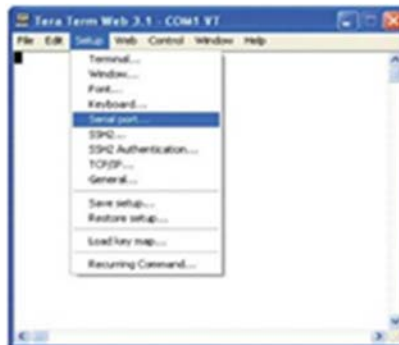

Figure 4-5: Setup
2. Click **OK**. A blank dialog screen, Figure 4-5 displays.
3. Click **Setup** to expand the drop-down menu, Figure 4-5 and select **Serial port**. The Serial Port Setup window, Figure 4-6, displays. In this window, you can make changes to the serial port setup.